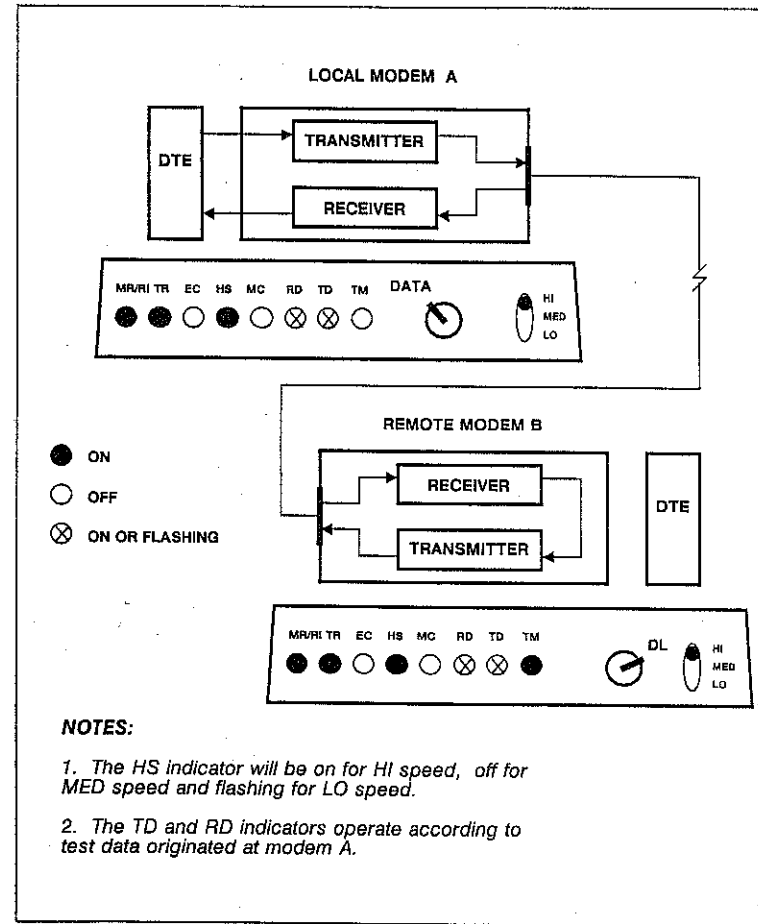
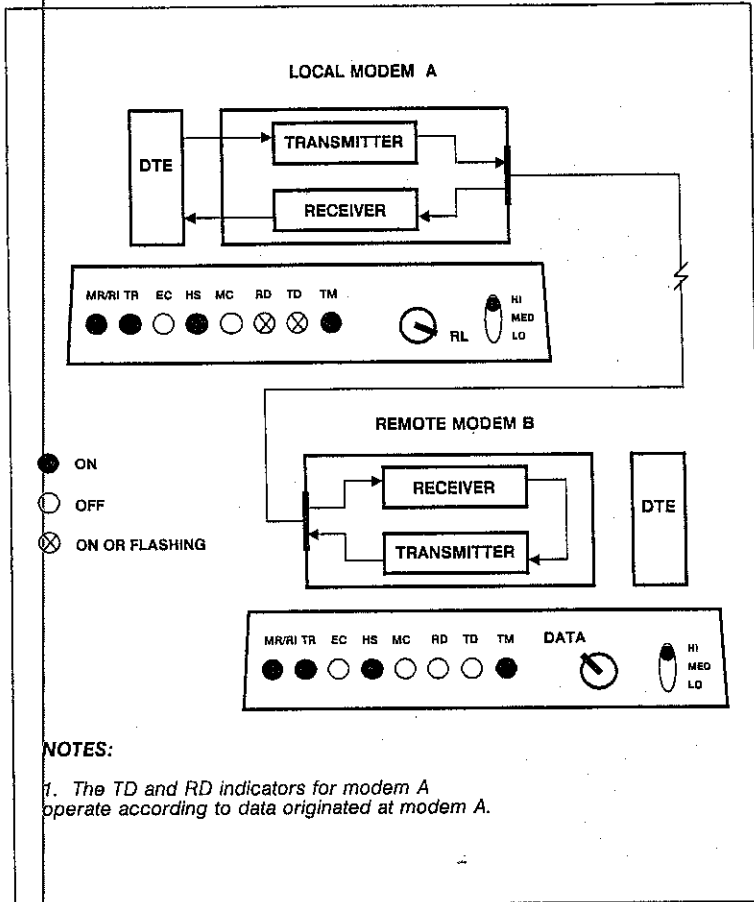

Figure 6-5
Figure 6-6
For special cases, there are 2 additional tests; the Digital Loopback (DL) (Figure 6-5) and the Remote Digital Loopback (RL) (Figure 6-6). They are provided for V.54 compatibility and are not usually needed for problem isolation.